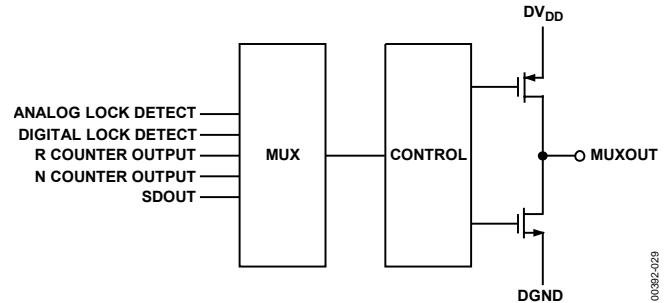
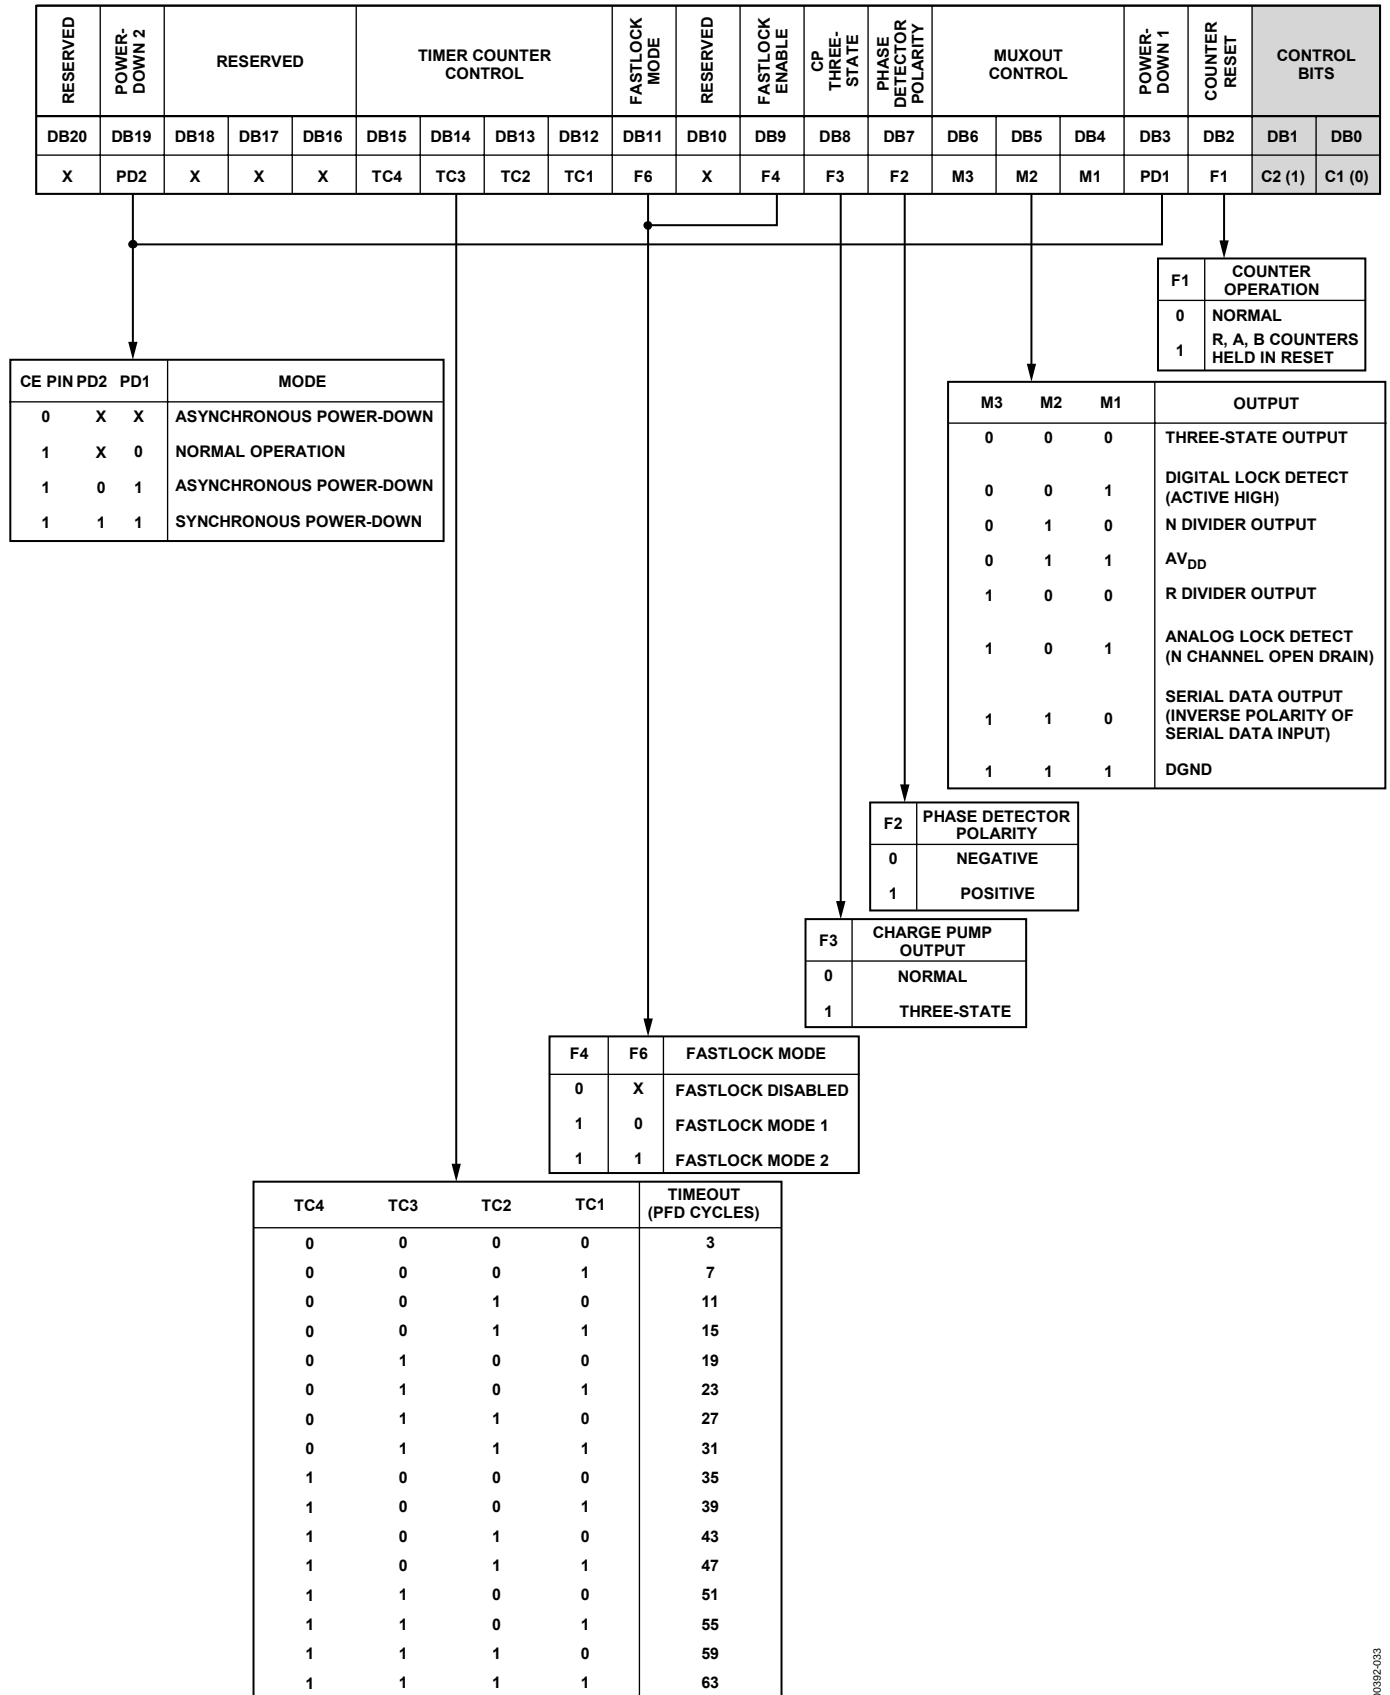

Figure 29. MUXOUT Circuit
Figure 33. Function Latch Map
The output multiplexer on the ADF411x family allows the user to access various internal points on the chip. The state of MUXOUT is controlled by M3, M2, and M1 in the function latch. Figure 33 shows the full truth table. Figure 29 shows the MUXOUT section in block diagram form.
With C2 and C1 set to 1 and 0, respectively, the on-chip function latch is programmed. Figure 33 shows the input data format for programming the function latch.
The on-chip multiplexer is controlled by DB6 (M3), DB5 (M2), and DB4 (M1) on the ADF411x family. Figure 33 shows the truth table.
- The user must also decide how long to keep the high current (1 mA) active before reverting to low current (250 μ A). This is controlled by the timer counter control bits, DB14 to DB11 (TC4 to TC1), in the function latch. The truth table is given in Figure 33.